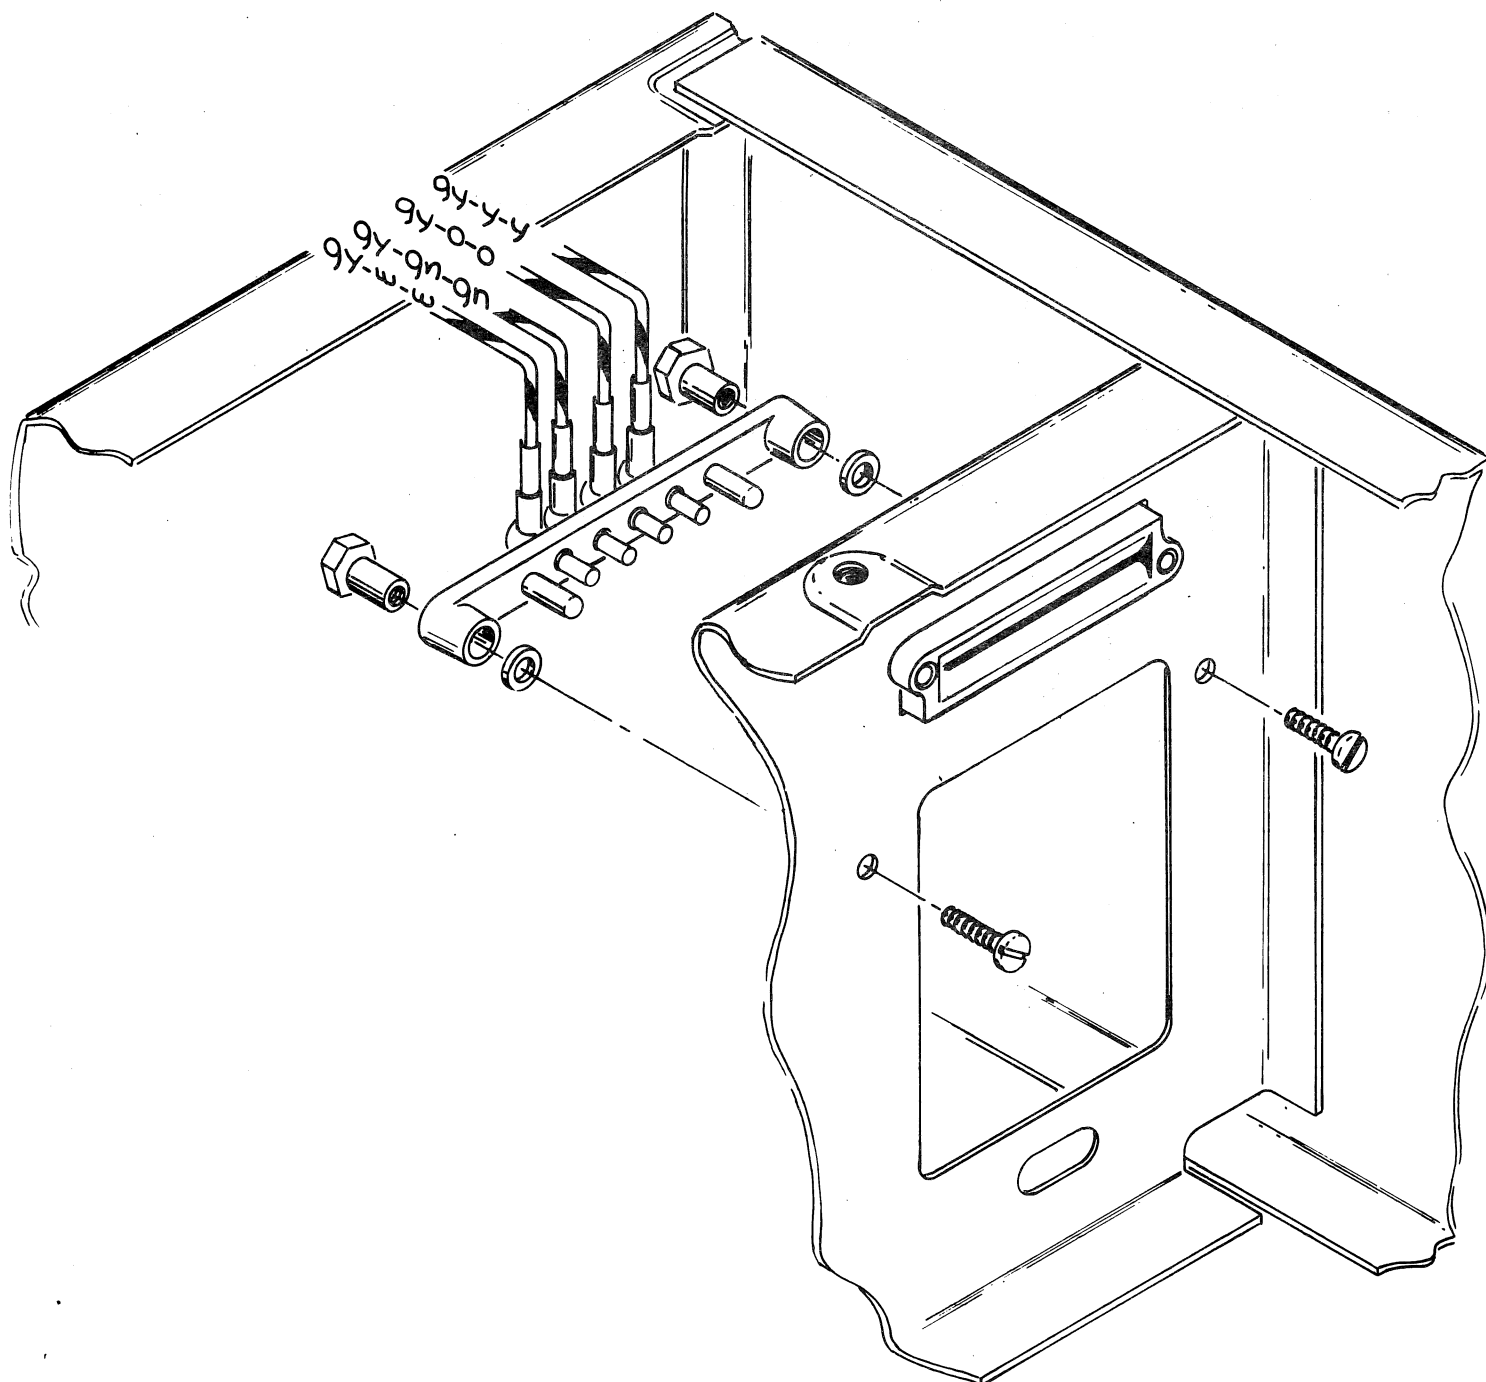

Fig. 7
- ( ) 4. Mount the connector assembly (from kit) as indicated in Fig. 7 (make sure cables are in positions shown). Use the 6-32 x 1/2 PHS screws, spacer nuts, and flat spacers from the kit.